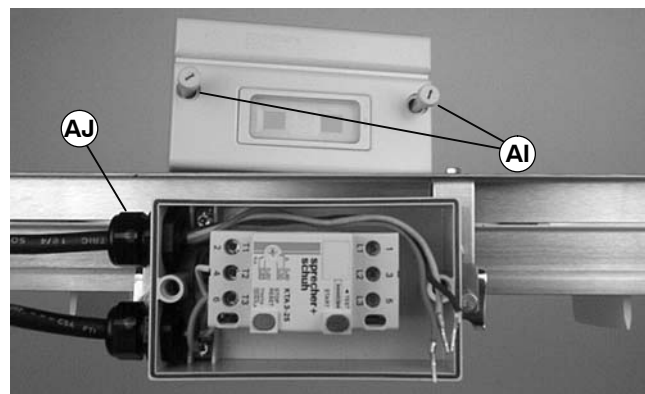

Figure 18
1. Loosen cover screws (AI of Figure 18). Remove cover.
5. Install cover and tighten screws (AI of Figure 18).
7. Replace starter cover and tighten screws (AI of Figure 18).